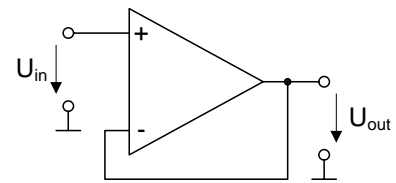
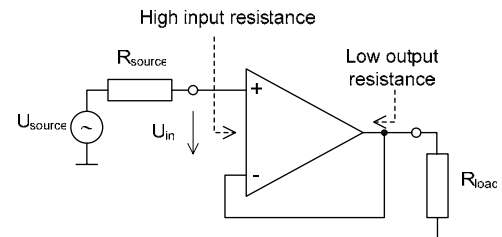

Figure 14 Buffer
Figure 15 Buffer circuit
As a special case of the non-inverting amplifier we get a *buffer*, *Figure 14*. We get this from the non-inverting amplifier by letting the value of R_1 go towards infinity, that is be a break, and by letting the value of R_2 be zero (0), that is a short circuit. From the equation above we see that the buffer will have a amplification of one (1) and might seem meaningless but we do have a circuit with a very high input resistance and a very low output resistance which means that the circuit connected to the output of the buffer will not draw any current from the circuit connected to the input of the buffer and the high input resistance and the low output resistance also means that there will be no voltage division at neither the input nor the output, *Figure 15*.